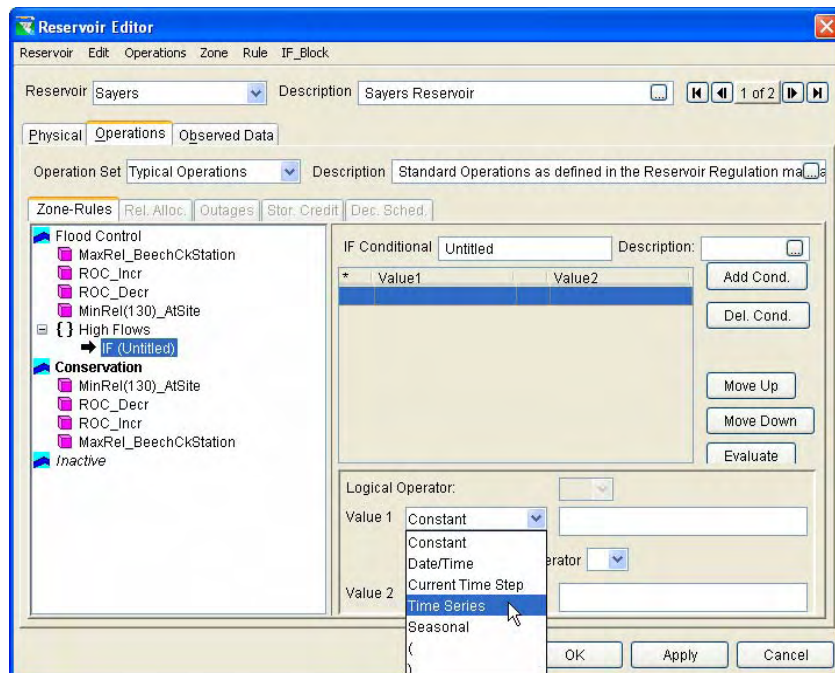

Figure 11.63 Conditional Test Editor – Select Value Type
- After pressing the **Add Cond.** button, a row will be added in the main pane of the editor, and the **Logical Operator** pane for **Value 1** and **Value 2** becomes active. For the *value type*, select the appropriate value type from the dropdown lists. **Constant**, **Date/Time**, **Current Time Step**, **Time Series**, or **Seasonal** can be selected (as previously discussed in Section 11.5.3). Figure 11.63 illustrates selecting **Time Series** value type for **Value 1**.